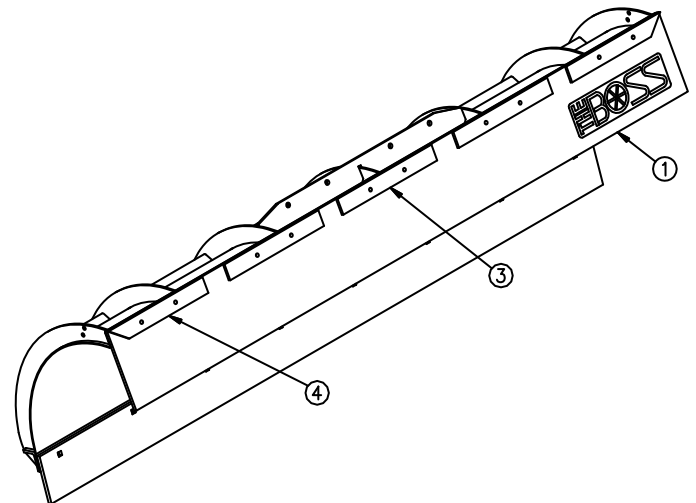

Figure 10. Strap Orientation
Installation Note: If installing snow deflector on a plow that does not have pre-punched holes in the blade skin, it is required that the blade skin be drilled along with the rubber belting. Use the metal straps as reference when drilling the holes. Refer to Figure 10 for the correct strap orientation. Space between straps will differ depending on size of blade.
- 4) Place Metal Straps (3) and Metal Straps with 45 (4) on top of the Rubber Belting (1). The Metal Straps with 45 (4) should be placed on the outer edges of the blade as shown in Figure 10.